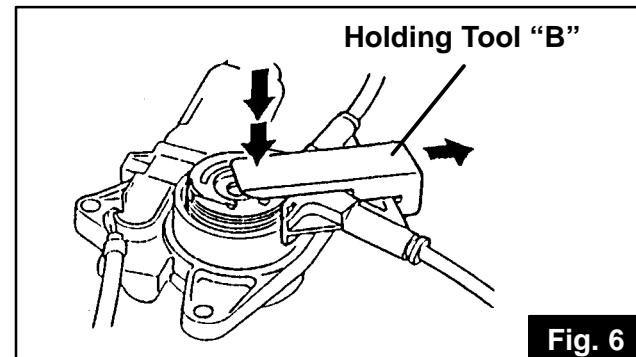

Fig. 6
- Using **Holding Tool "B,"** partially insert the window regulator drum into the motor housing **see figure 6.**